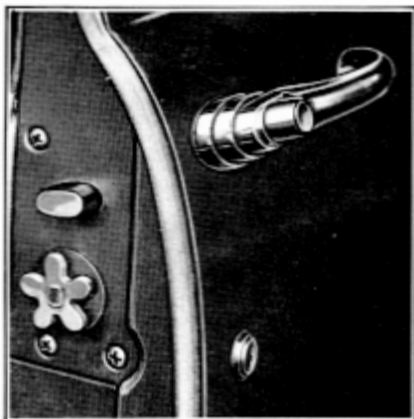

Figure 2
**TO LOCK CAR** — To lock car, close windows. With doors closed, push inside safety button (F, Figure 3) down on all doors except the front door from which you are leaving. Close the front door, insert key in lock and turn key one-quarter turn to the right until safety button is down to the locked position. Turn key back to vertical position and remove. Push in on button (Figure 2) to insure that door is locked.